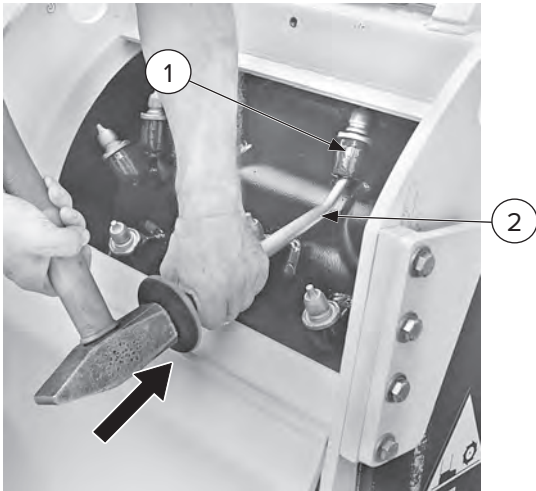

Figure 26
1. The teeth [Figure 26, Item 1] are held in the tooth holder by a retaining spring.